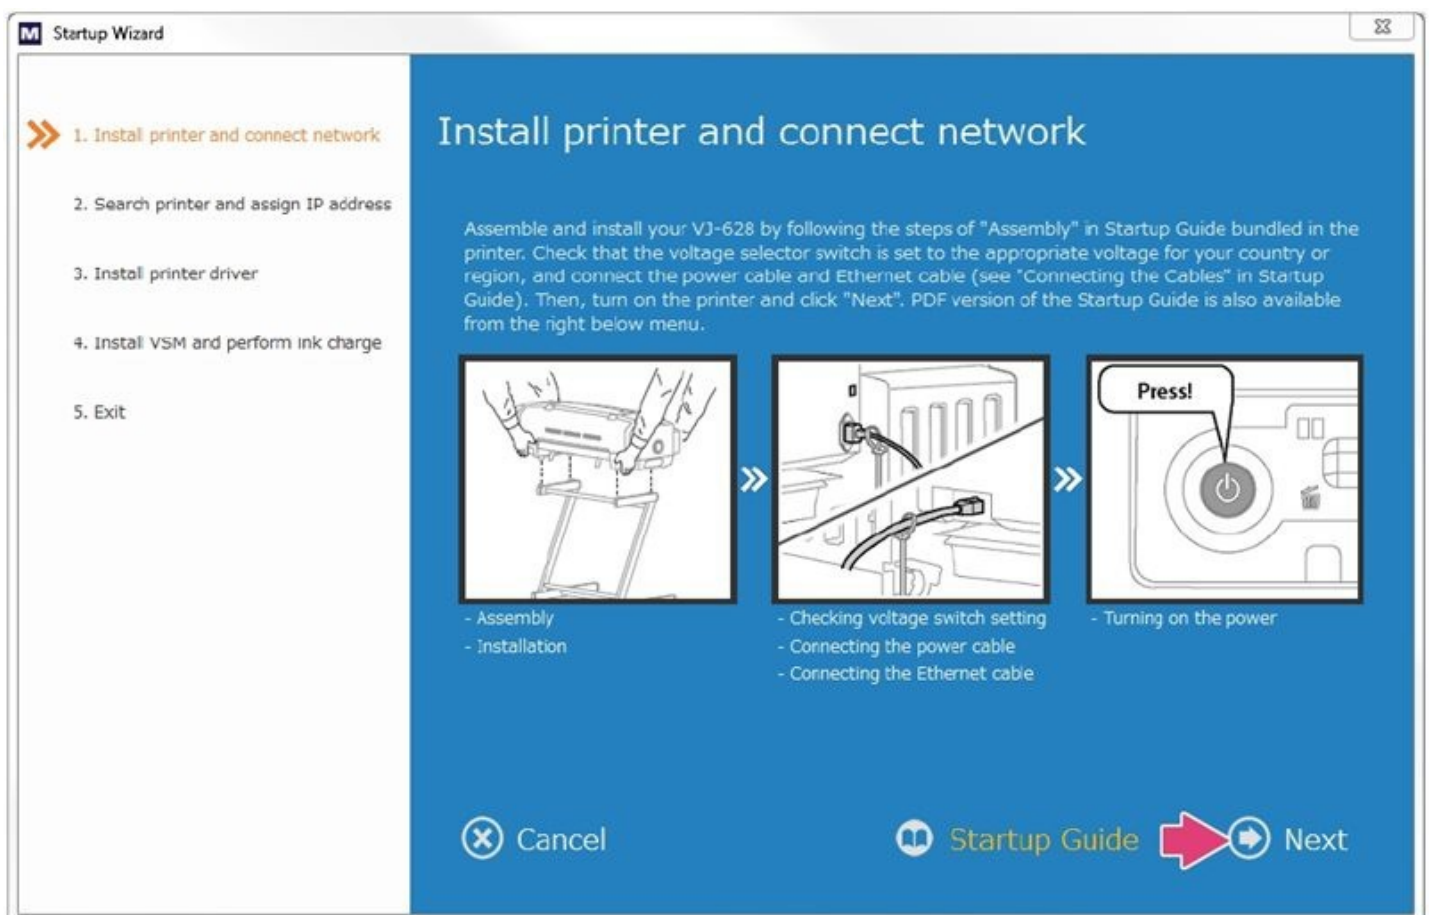

Figure 16
3. After assembling, make sure your PC and the ValueJet printer are connected on the same network, and that the printer is turned on. Then select **Next**. See Figure 16.